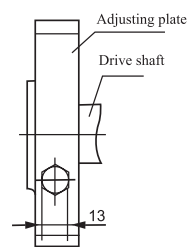

Fig8
3.11 Screws for fuel injection pump shaft and angle adjusting plqte(M12×65-12.9Zn): Twisted to 130N·m by once (fig.8).